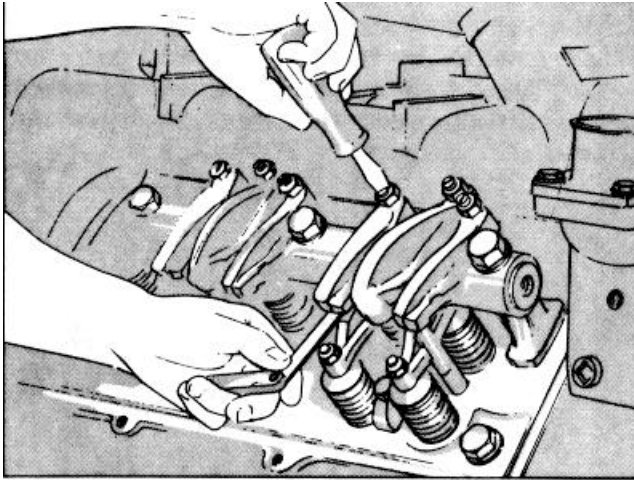

Fig. 2-34, (OM1040L). Adjusting valves
1. Loosen the locknut and back off the adjusting screw. Insert a feeler gauge between the rocker lever and the top of the crosshead. Valve clearances are shown in Table 2-9. Turn the screw down until the lever just touches the gauge and lock the adjusting screw in this position with the locknut. Fig. 2-34. Torque the locknut to the values indicated in Table 2-7; note Step 2 under "Injector Plunger Adjustment".